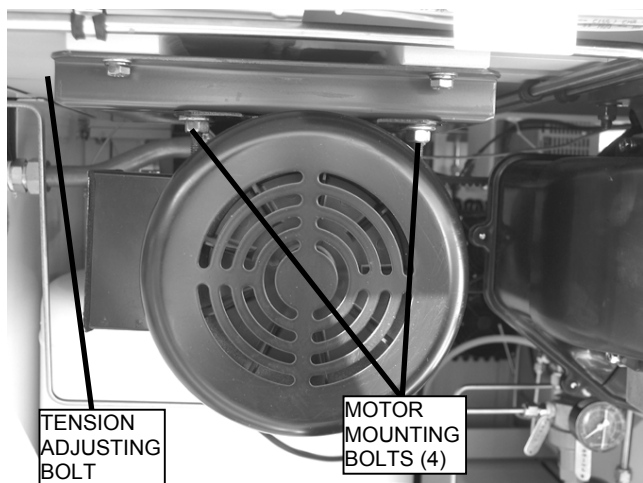

Figure 10. Scroll Compressor Motor Mount.
- d. Loosen the four (4) motor mounting bolts sufficiently to allow the motor to be moved with the tension adjusting bolt (see Figure 10).
- b. Loosen the four (4) motor mounting bolts sufficiently to allow the motor to be moved with the tension adjusting bolt (see Figure 10).